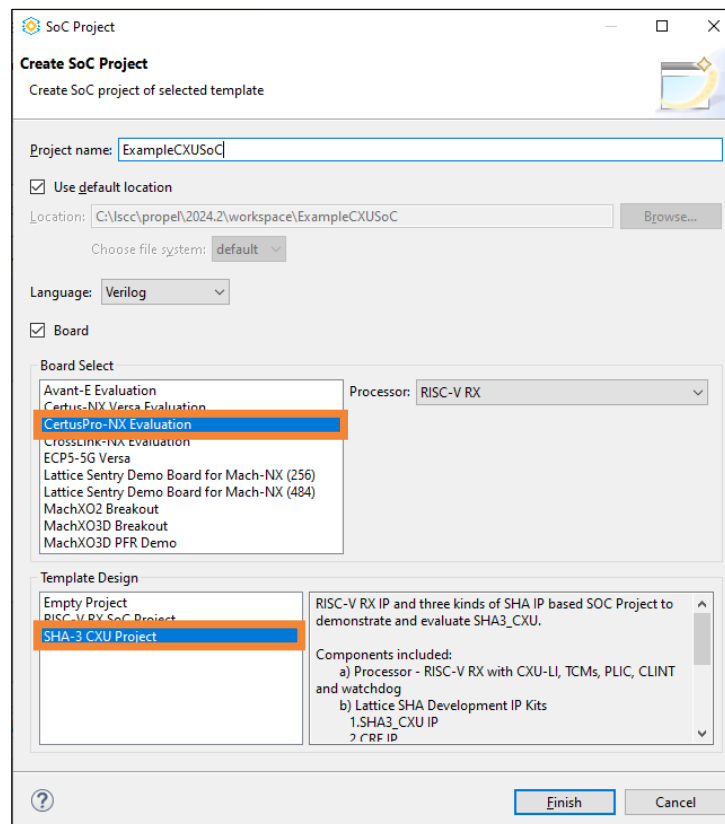

Figure 8.1. Create SoC Project Wizard 3
1. Create a SHA-3 CXU SoC project with the CertusPro-NX Evaluation Board (Figure 8.1). Click Finish.